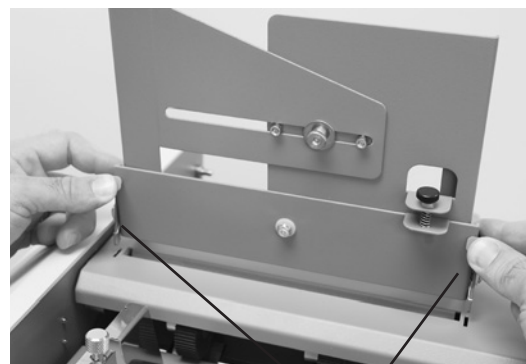

Fig. 9d
5. To remove the multi-sheet feeder depress the release levers located on either side of the lower back side of the feeder (Fig. 9d), tilt the feeder forward and lift. To reinstall depress the levers and reinsert.